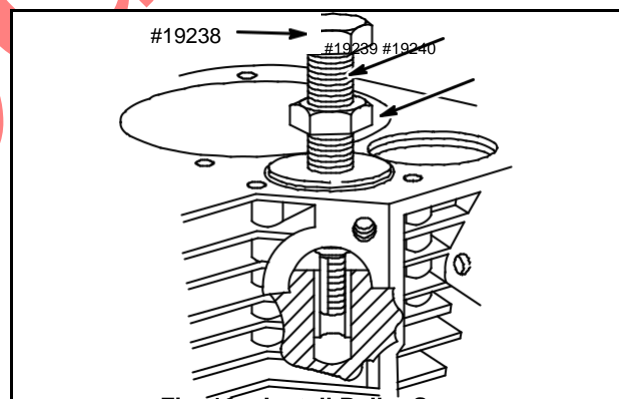

Fig. 16 – Install Puller Screw
5. Place Puller Washer, Tool #19240, over valve seat, keeping it centered. Lubricate puller screw with Stanisol or kerosene and thread puller screw into bushing until it bottoms, Fig. 16.